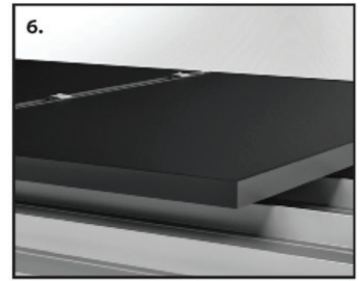

Figure 6
- 6. Install Additional PV Modules-repeating steps 3-5:** place another module in the MidGrabs that were left open in the previous step. Tighten the downslope row of grabs each time a module is placed and leave the upslope open until the next module is placed (Fig. 6). The final row will be finished with EdgeGrab/StandOff Assemblies. Periodically look back at the modules you've installed to double check that the MidGrabs were tightened.